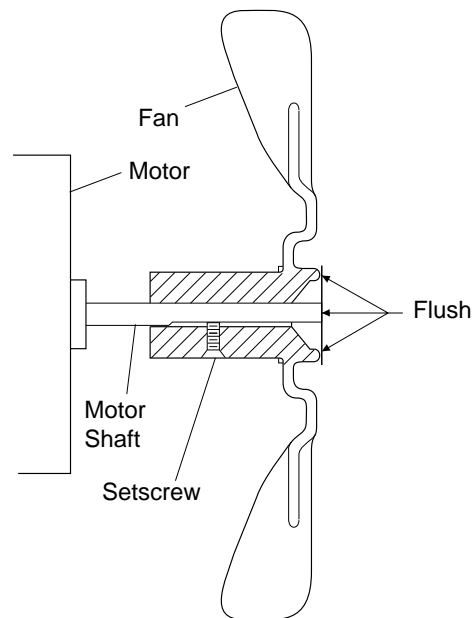

Figure 7 - Fan Cross Section
6. Replace fan on motor shaft. Place fan hub flush with end of motor shaft (see Figure 7).